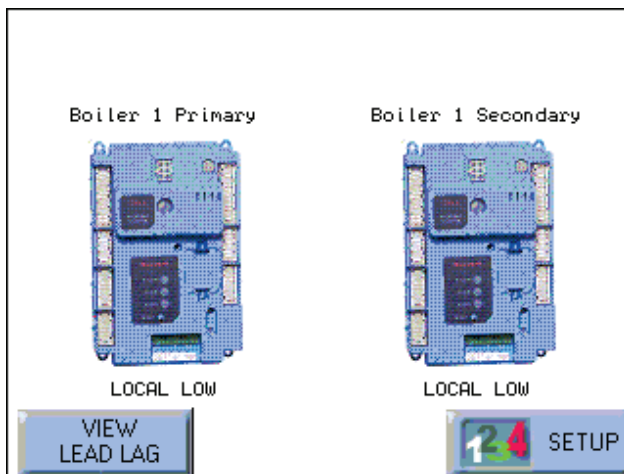

Fig. 53 – Home Screen
6. Now you can rename the other control on Boiler 1 – the Secondary control. Press the Home button in the top left-hand corner to go back to the Home screen which shows the different controls (Fig. 53).